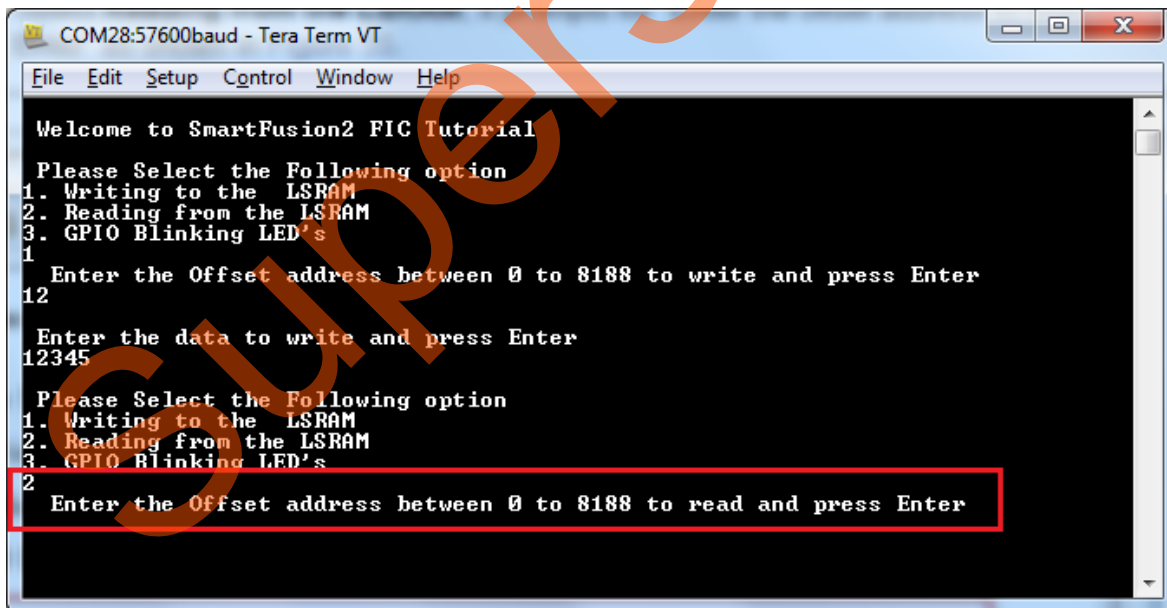

Figure 57 • Reading from LSRAM
11. Select **Reading from the LSRAM**, it prompts for **Enter the offset address to read** and press **Enter** as shown in Figure 57.